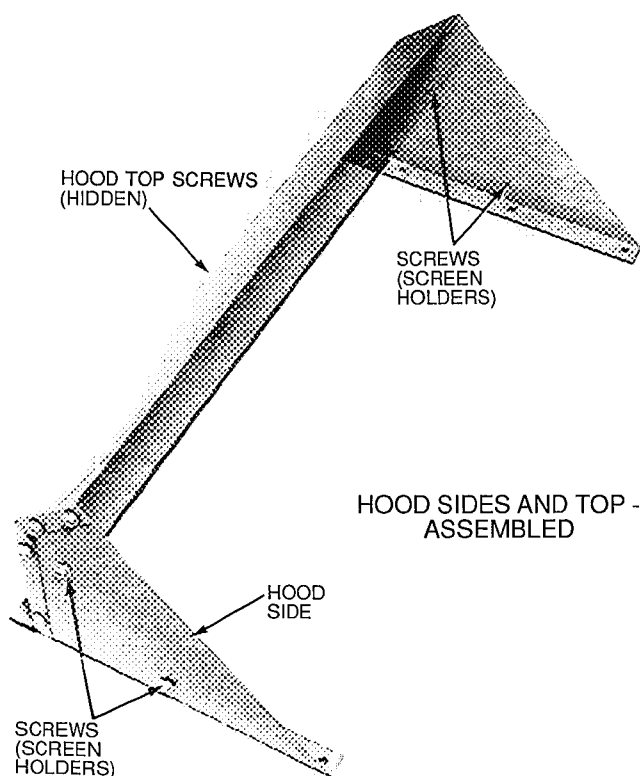
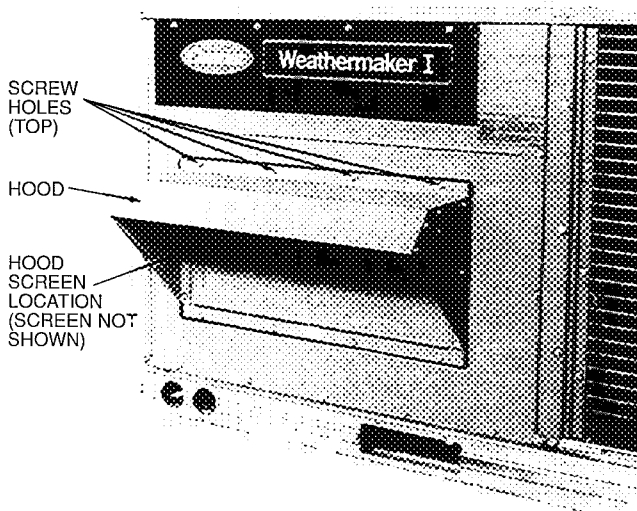

Fig. 13 — Outdoor-Air Hood Details
Fig. 14 — Outdoor-Air Damper with Hood Attached
Fig. 13 for hood details. Secure top of hood with the 4 screws removed in Step 3. See Fig. 14.
7. Align screw holes on hood with screw holes on side of manual outdoor-air damper. See Fig. 13 and 14. Secure hood with 6 screws from Step 6.
9. Remove and save screws currently on sides of hood. Insert screen. Secure screen to hood using the screws. See Fig. 14.
6. Place hood on front of evaporator coil access panel. See Fig. 13 for hood details. Secure top of hood with the 4 screws removed in Step 3. See Fig. 14.
8. Align screw holes on hood with screw holes on side of two-position damper. See Fig. 13 and 14. Secure hood with 6 screws from Step 7.
10. Remove and save 4 screws currently on sides of hood. Insert screen. Secure screen to hood using the 4 screws. See Fig. 14.